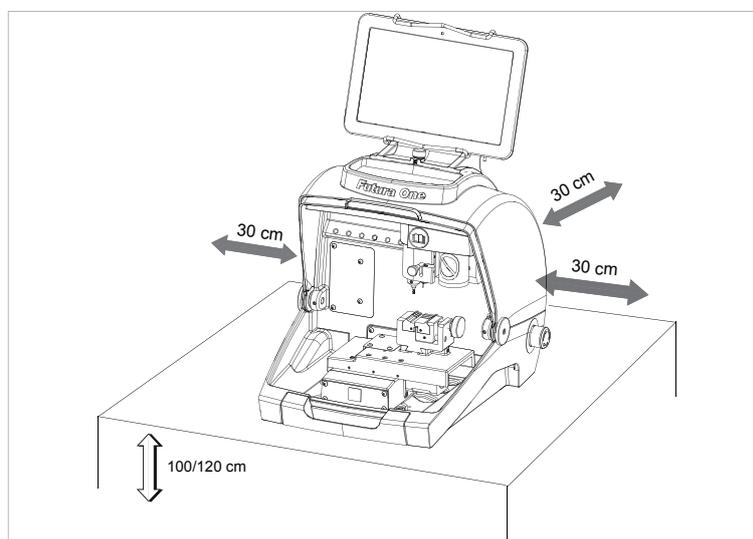

Fig. 9
- 1) Place the key-cutting machine on a solid horizontal work bench suitable for the weight of the machine (19 Kg). The work bench should be approximately 100-120 cm high to facilitate access to the working parts. We recommend leaving at least 30 cm clearance behind and around the machine to ensure good ventilation and facilitate handling (Fig. 9).